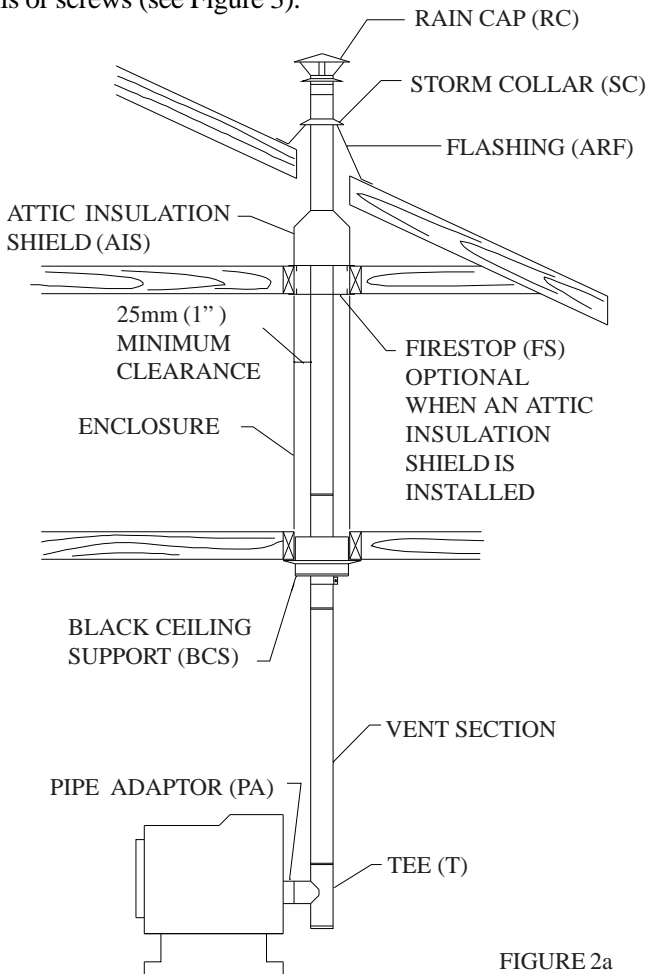

FIGURE 2a
1.1 General VENT layout is shown in Figure 2a and 2b.
1.7 Install the BLACK CEILING SUPPORT (BCS) from below the joist level and fasten with 4 x 1.5" spiral nails or screws (see Figure 2a).